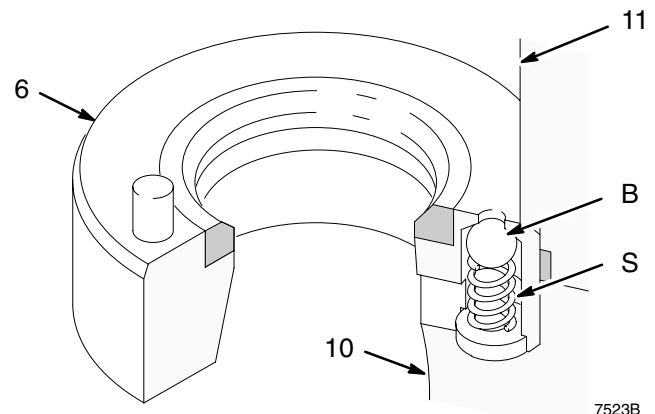
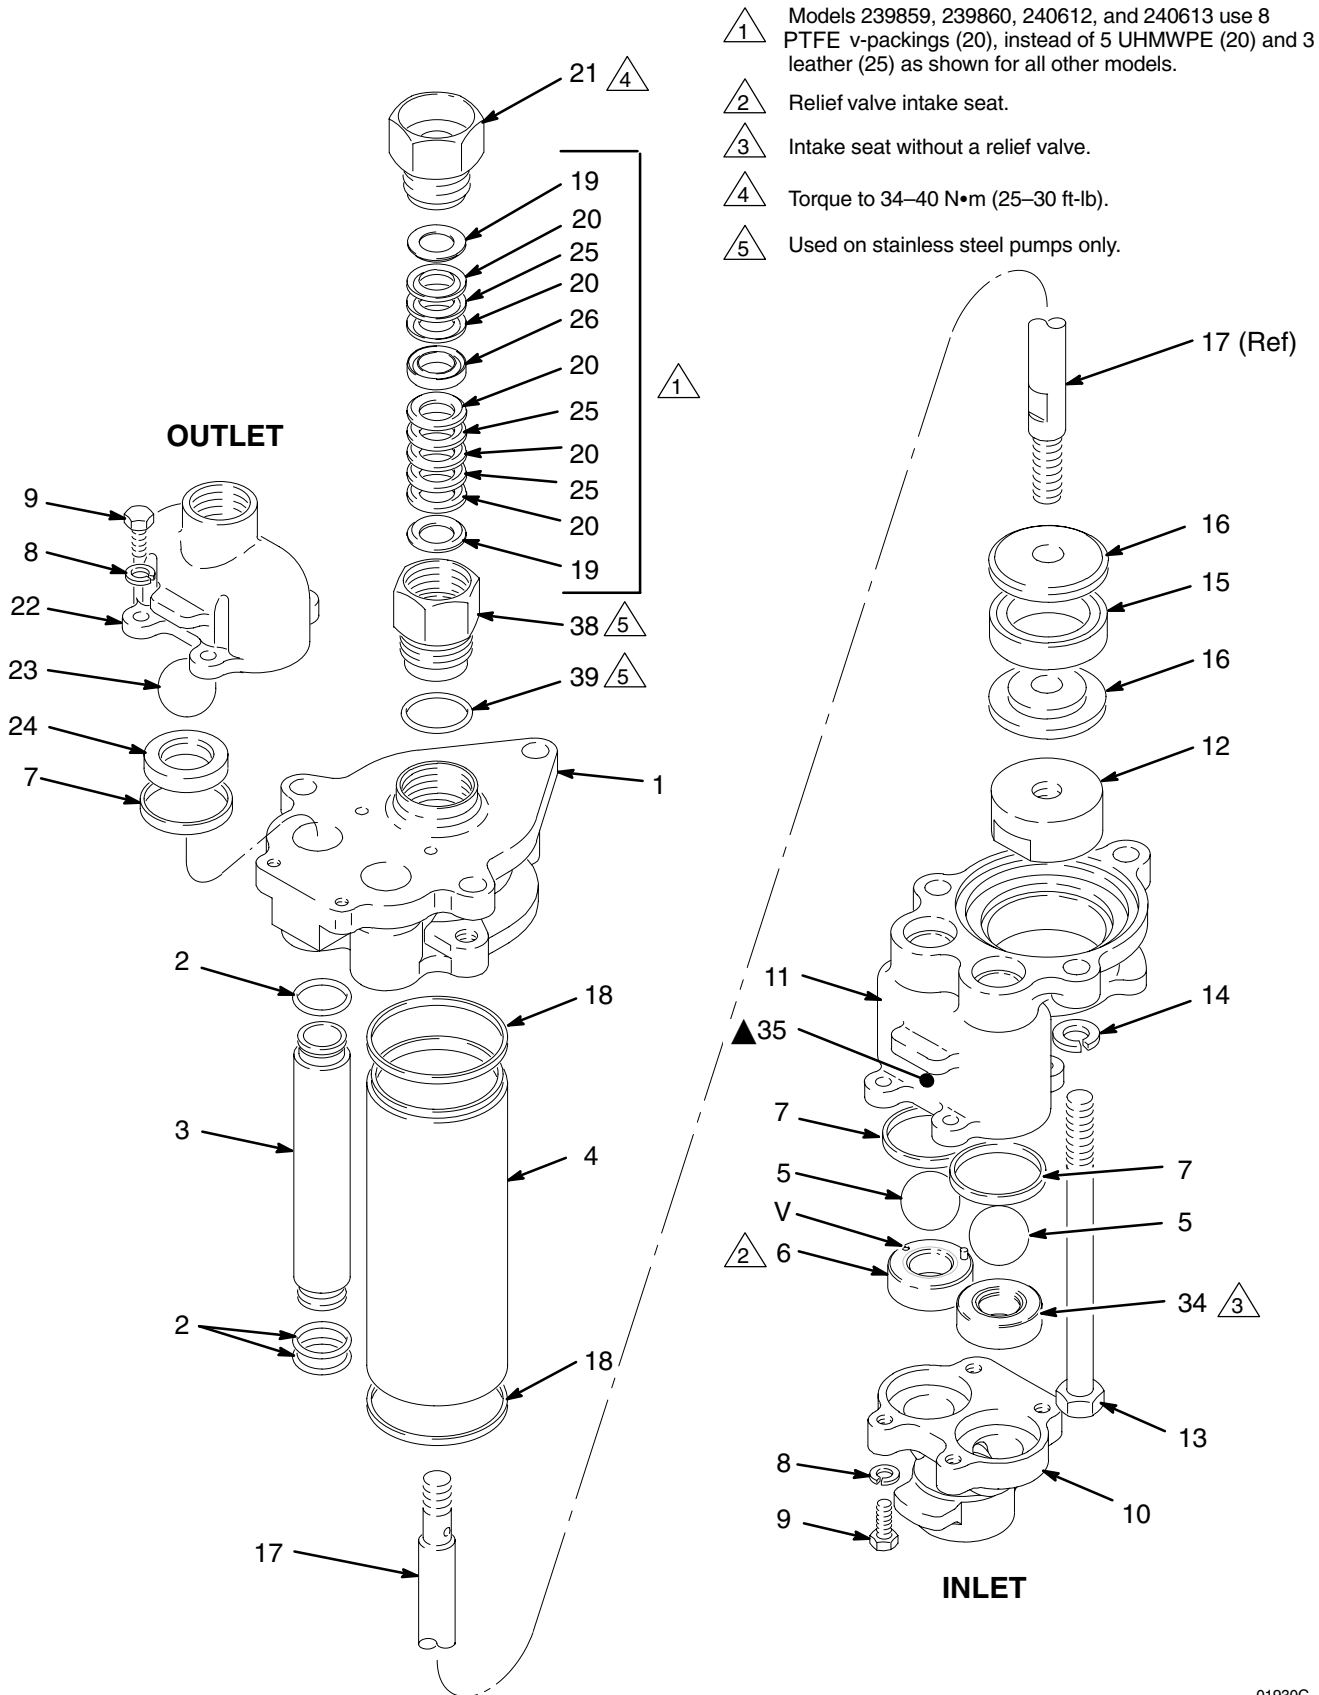

Fig. 12
Fig. 13
2. Secure the displacement pump intake housing (10) in a vise.
3. Refer to Fig. 13. Loosen but do not remove the packing nut (21) and the cartridge (38, used on stainless steel pumps only).
4. Remove the four capscrews (9) and washers (8) from around the pump outlet housing (22).
5. Remove the outlet housing (22), balls (23), seats (24) and gaskets (7).
6. Remove the three tie bolts (13) and lockwashers (14). Lift off the upper pump housing (1), along with the fluid tubes (3), cylinder (4), and piston assembly (16).
7. Remove the packing nut (21). *On stainless steel pumps only*, remove the throat cartridge (38) and o-ring (39).
- NOTE:** Model 239859, 239860, 240612, and 240613 displacement pumps use 8 PTFE v-packings (20) in the throat, instead of 5 UHMWPE (20) and 3 leather (25) as on all other models.
9. Remove the tubes (3) and cylinder (4) from the housing (1). Pull the piston assembly out of the cylinder.
10. Remove the intake housing (10) from the vise.
11. Remove the four capscrews (9) and washers (8) from the intake housing (10). Use a flatblade screwdriver inserted between the lower pump housing (11) and the intake housing (10) to separate them.
NOTE: One intake seat (6) includes a pressure relief valve (V). This seat must be located exactly where shown (the left side as viewed in Fig. 13).
12. Remove the balls (5), intake seats (6 and 34), and gaskets (7).
13. Inspect the pressure relief valve in the seat (6) to make sure it is not clogged. Press down on the valve's ball (B) to see if the ball and the spring (S) are free to move. See Fig. 12.